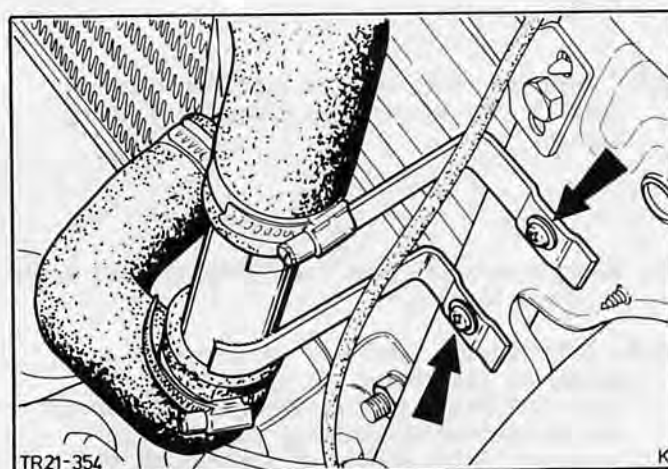
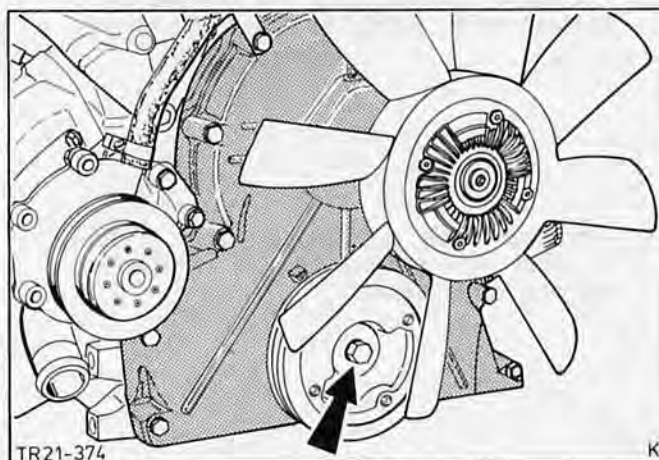

Fig.107. Connecting pipe to overflow tank.
Fig.108. Remove crankshaft belt pulley.
3. Unscrew connecting pipe running to overflow tank from the body (2 screws), Fig.107.
7. Undo sump bolts (25) and detach the sump. If the sump is stuck fast, prise it off sideways using a screwdriver.
10. Remove crankshaft belt pulley (1 bolt) and timing cover with fan (11 bolts), Fig.108.